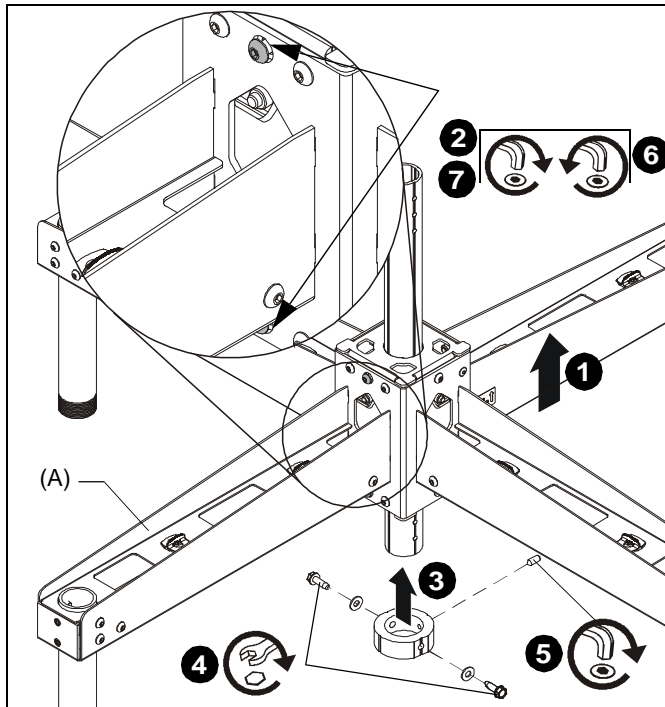

Figure 3
1. Slide quad ceiling accessory (A) up from below onto installed column (not included). (See Figure 3)
2. Tighten two existing 5/16 x 1-1/2" button head cap screws in center of quad ceiling accessory. (See Figure 3)
5. Install and tighten 5/16" x 3/4" set screw into bottom stop collar. (See Figure 3)
6. Loosen two button head screws tightened in Step 2, and slide accessory down extension column until it rests on the bottom stop collar. (See Figure 3)
7. Tighten two button head cap screws (loosened in Step 6) in center of quad ceiling accessory. (See Figure 3)